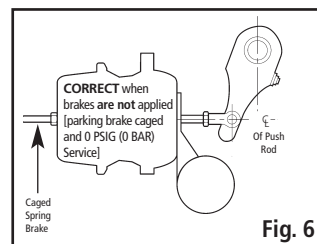

Fig. 6
2. With the actuator FULLY released, measure and record the pushrod length from the face of the actuator housing to the center of the clevis pin (Fig. 6 on reverse side).